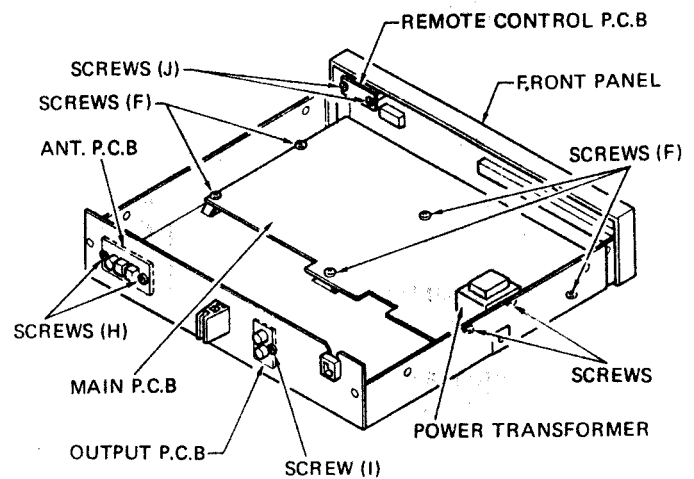

Fig. 3
- 1) Remove the 5 screws (F) on the main P.C.B as shown in Fig. 3.
- 2) Remove the 2 screws (G) on the power transformer.
- 1) Remove the 1 screw (H) on the output P.C.B as shown in Fig. 3.
- 2) Remove the 2 screws (I) on the ANT. P.C.B.
- 3) Remove the 2 screws (J) on the remote control P.C.B.